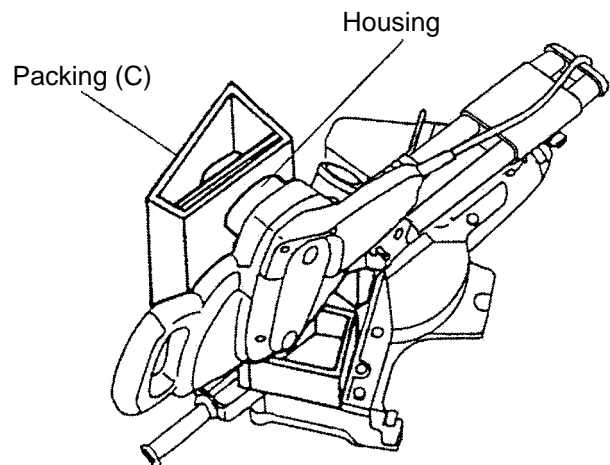

Fig. 56
(3) How to install packing (C)
Insert packing (C) into the motor housing (Fig. 56).